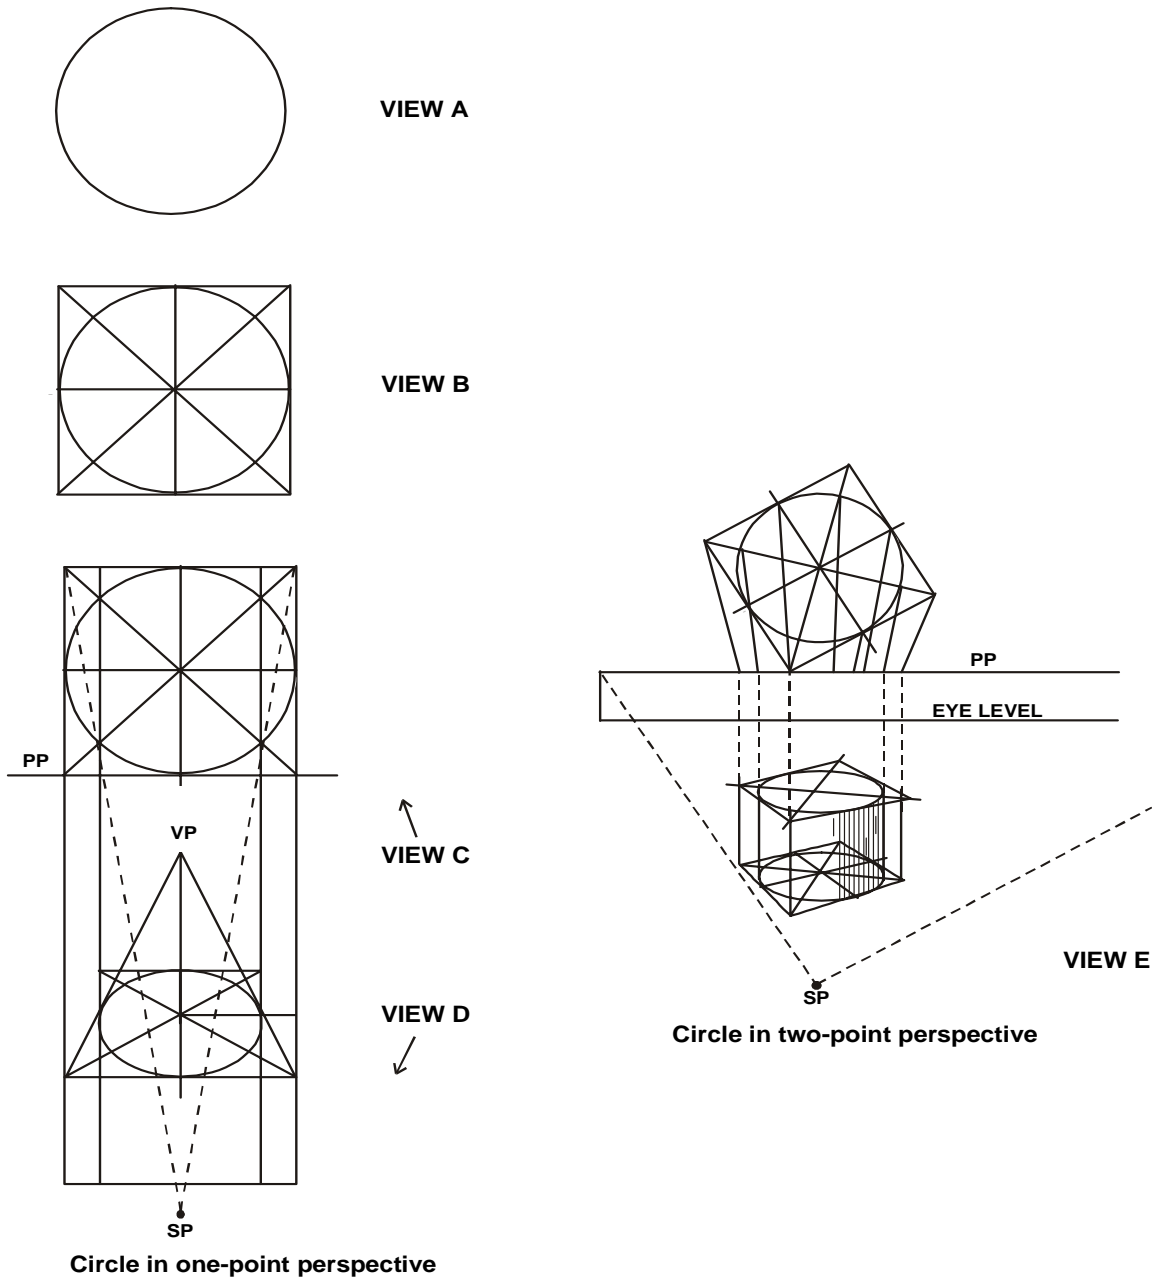

Figure C-10. Proper layout of a circle drawn in one-point and two-point perspectives.
b. Although the object's face or surface containing the circular form should be parallel to the picture plane for ease in drawing, many times this cannot be done. Figure C-10 (Views A through E) shows the proper layout of a circle drawn in one-point and two-point perspectives. The following steps will assist you in drawing a circle in one-point perspective.
(1) Draw a circle with the desired dimensions (View A).
(2) Draw a square circumscribing the circle. Construct the center lines and diagonals inside the square. The intersections of the circle, the centerlines, and the diagonals will give you eight checkpoints for drawing the circle in perspective. (See View B).
(3) Draw the square in one-point perspective and include centerlines and diagonals (View C).
(4) Draw the circle through the checkpoints (View D).
c. Use the same steps to draw the circle in two-point perspective as in one-point perspective. The only difference is the additional vanishing point. View E shows steps (3) and (4) in one-point perspective in projecting the checkpoints and drawing the circle.